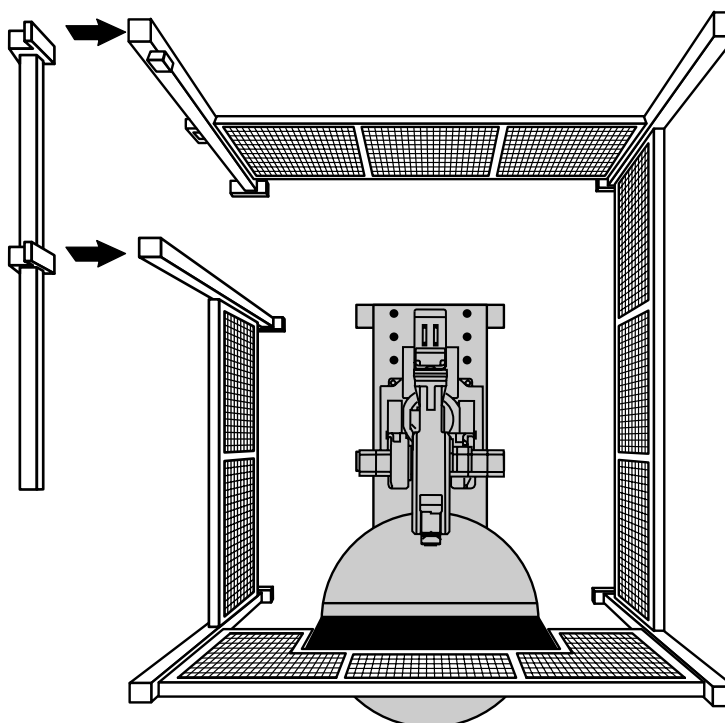

Figure 4-12 Installing the Top Door Rail
9. Connect a fence post to end of bottom section of left wall (see Figure 4-12).